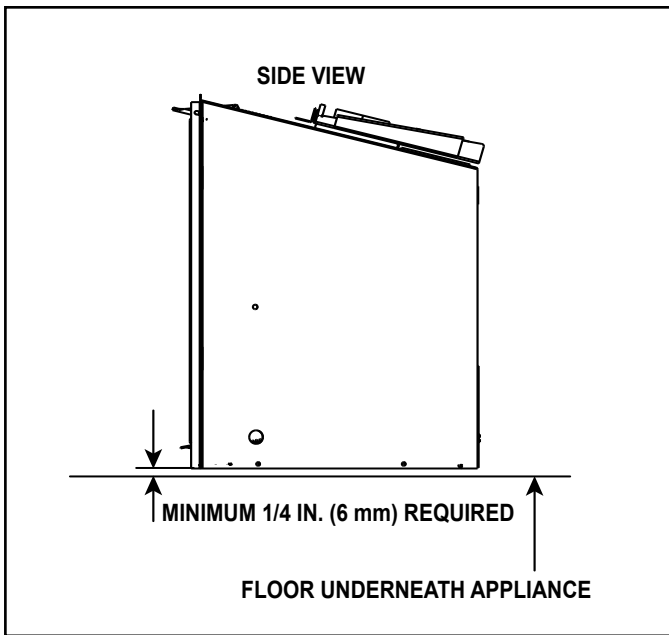

Figure 8.7 Solid Fuel Floor Clearance
- A minimum 1/4 in. (6 mm) gap from the bottom of the appliance to any floor surface is **REQUIRED**. See side view in Figure 8.7.
- Combustible flooring underneath the appliance is acceptable with a 1/4 inch gap. See Figure 8.7.